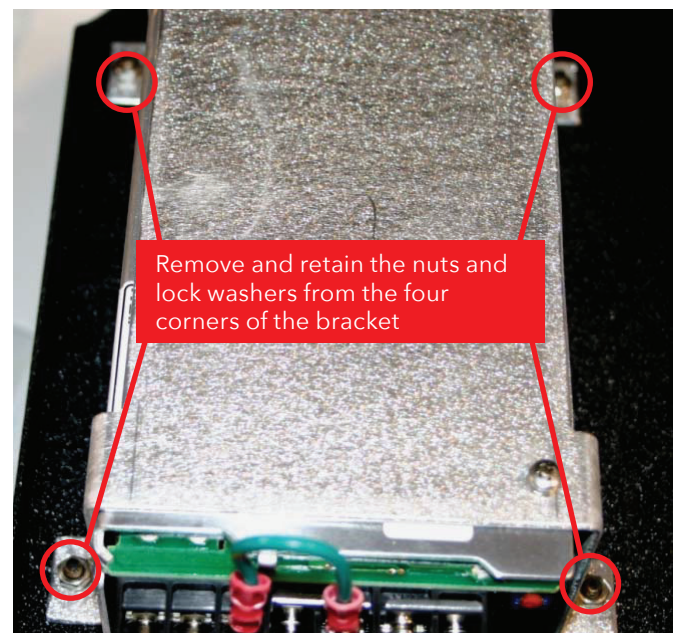

Figure 2. - THE AC POWER SUPPLY MODULE MOUNTING BRACKET.
6. Using the nut driver, remove the four nuts and lock washers securing the power supply module mounting bracket to the Pem® studs inside the front cover. Refer to Figure 2. Retain the mounting hardware.